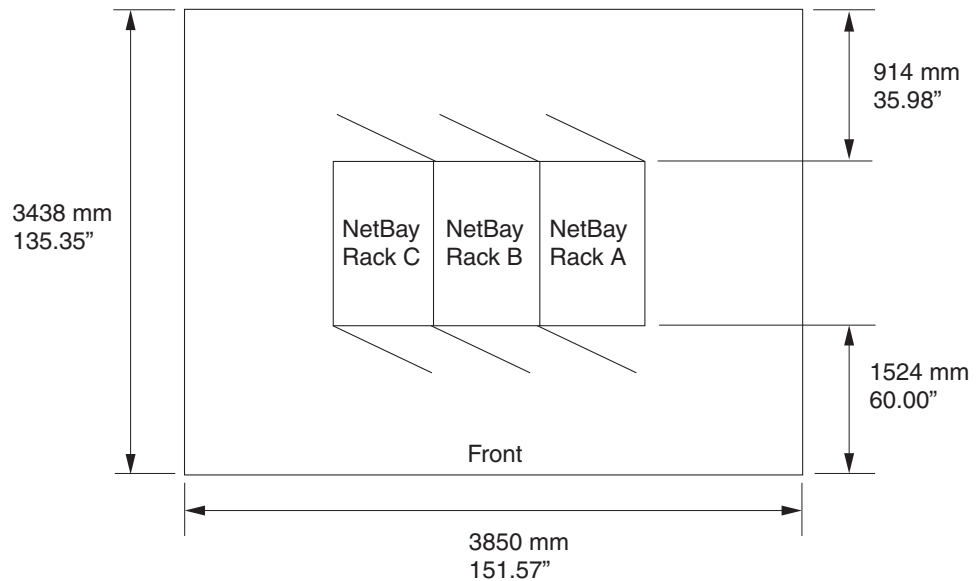

Figure 26. Operational clearances for NetBAY 42 Enterprise rack
Figure 26 shows the required floor space for an IBM NetBAY rack. This diagram shows the space needed to allow enough clearance in the front and rear of the rack to be able to open the doors to access the equipment. Front clearance is needed to have access to the blade servers and the BladeCenter T media tray. Rear clearance is needed to access power supplies, blowers, network cable connections, and attachment of a local monitor, keyboard, and mouse to the management module.
- Floor space that provides adequate access to the front and rear of the rack, and space on both sides of the rack or a row of racks for ventilation and walk through space. See Figure 26 on page 52.